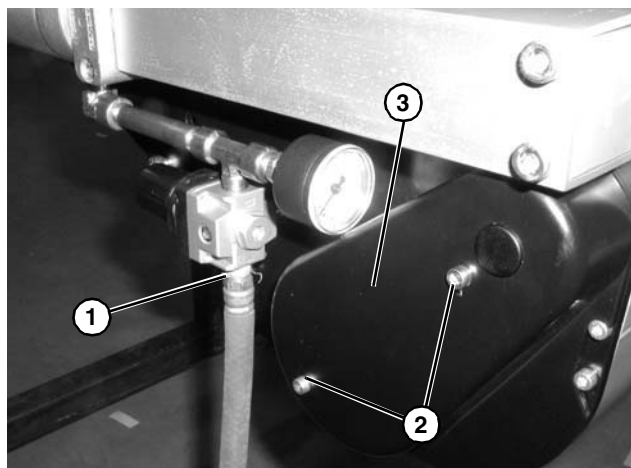

Figure 76
1. Remove air supply and remove hose (**Figure 76, item 1**) from center drive.
2. Remove screws (**Figure 76, item 2**) and guard (**Figure 76, item 3**).